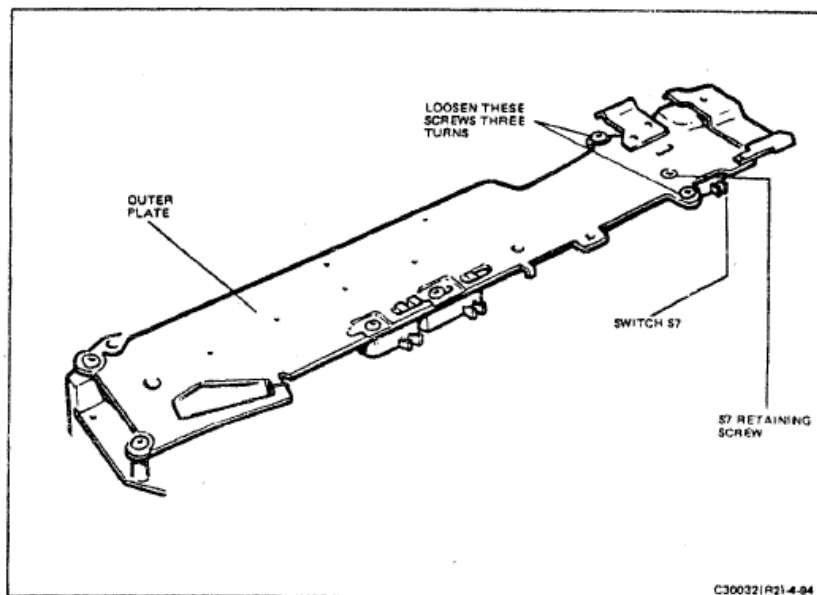

FIGURE 4-94 REMOVING SWITCH S7
- c. Remove the S7 retaining screw (Figure 4-94).
- d. Loosen the two forward gear-train (outer plate) retaining screws no more than three turns. This is done to permit the stud on the S7 switch body to clear the locating hole in the outer plate (Figure 4-94).